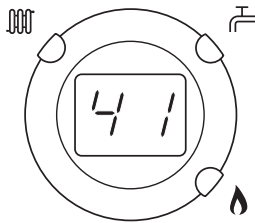

Fig. 13
3. Normally the display will show the current temperature of the water in the boiler (e.g. 41°C, Fig. 13). As the knob is turned the display will show the selected curve (Fig. 14).